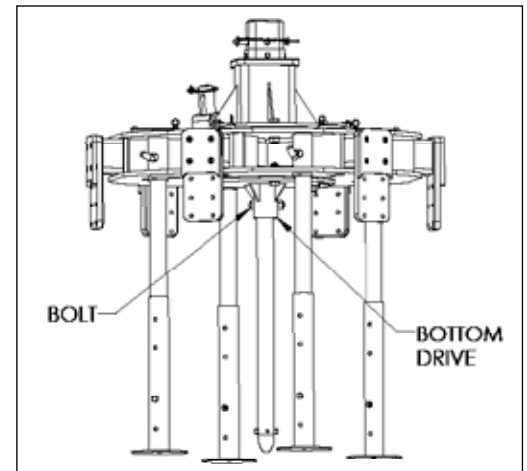

Figure 13. Inserting Guide Shaft Into Bottom Drive
10. Remove the bolt from one end of the Bottom Drive. Insert the Guide Shaft into the Bottom Drive of the cutter, being careful to line up the hole in the Guide Shaft with the hole in the Bottom Drive. See Figure 13.